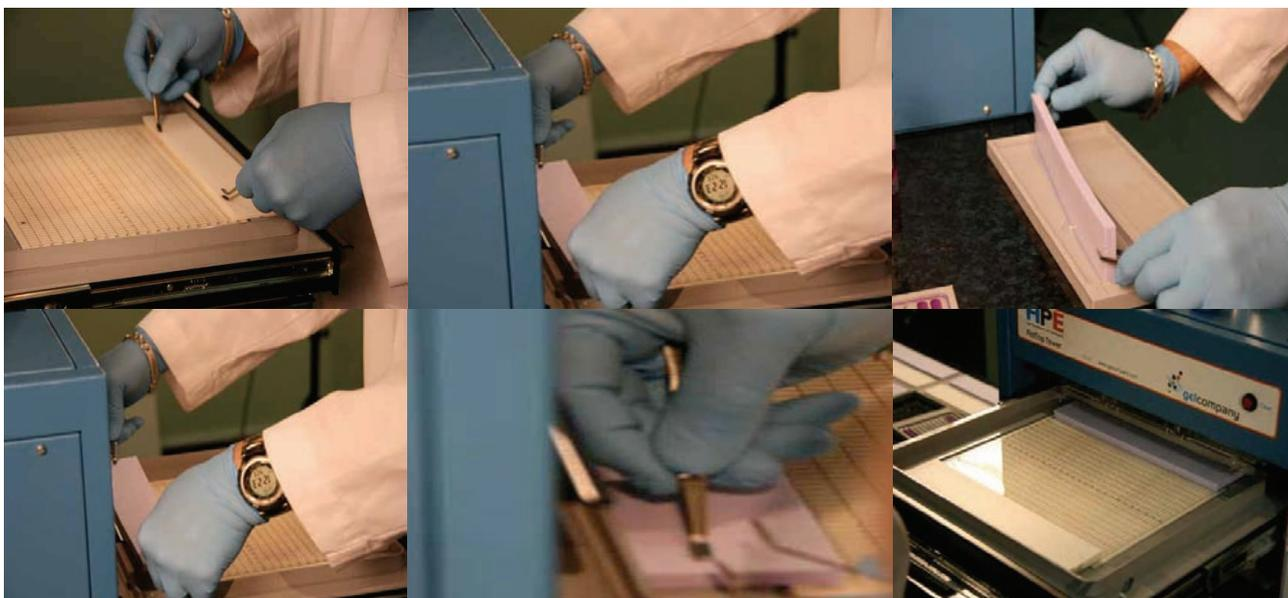

Fig. 5.7: Applying the stack of electrode wicks on gel edges.
9. Place the stack of electrode wicks onto the gel edges, overlapping the gel by at least 2 mm. Smooth out air bubbles using a roller. Move the anodal wicks around the gel area to avoid losing buffer drops on the gel surface (fig. 5.7)